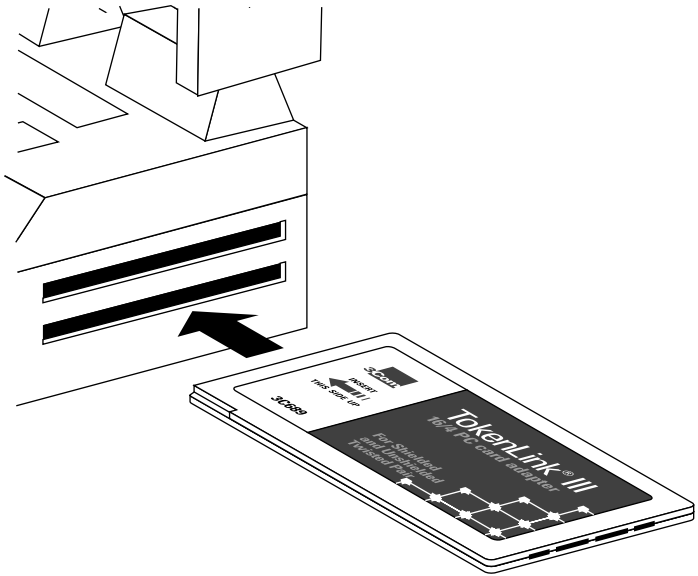

Figure 2-2 Inserting the 3C689 Adapter
- 1** Hold the adapter so that the PC Card connector is next to the PC Card slot of your computer, as shown in Figure 2-2.